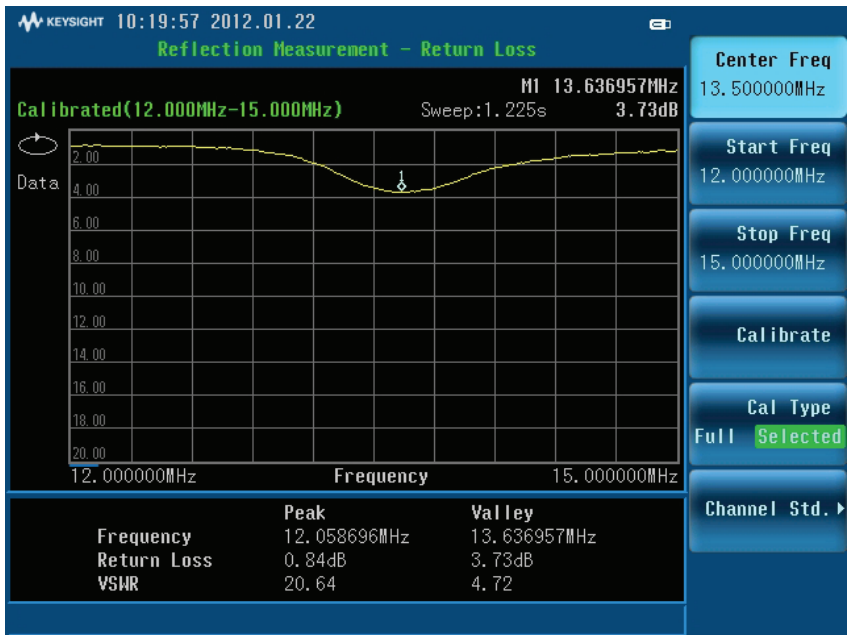

Figure 5. Return loss result measured with the N9322C BSA
- Use the Marker on the N9322C BSA to read the negative peak of the trace. You can also verify the measurement result using an E5071C ENA (see Figures 5 and 6)